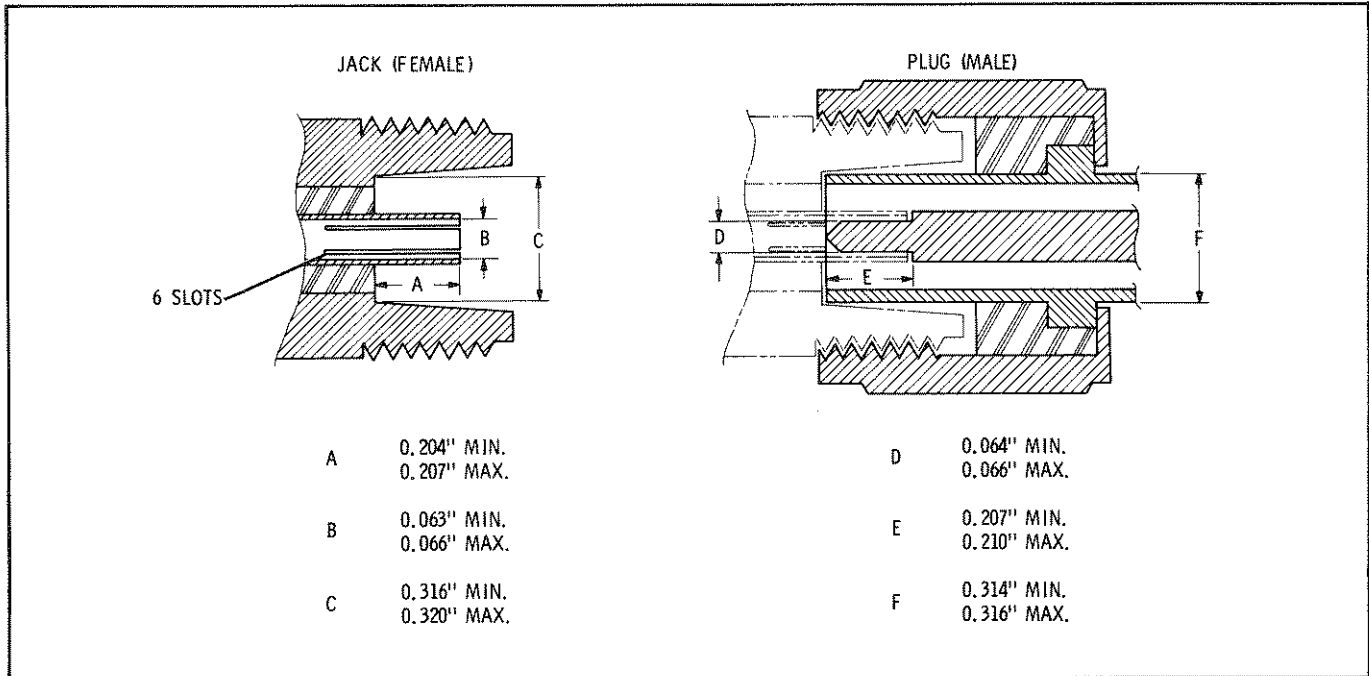

Figure 5. Type-N Connector Dimensions
27. Type-N Connectors. Type-N connectors used on the Model 779D are stainless steel for long wear and are compatible with connectors whose dimensions conform to MIL-C-39012 or MIL-C-71 (see Figure 5).